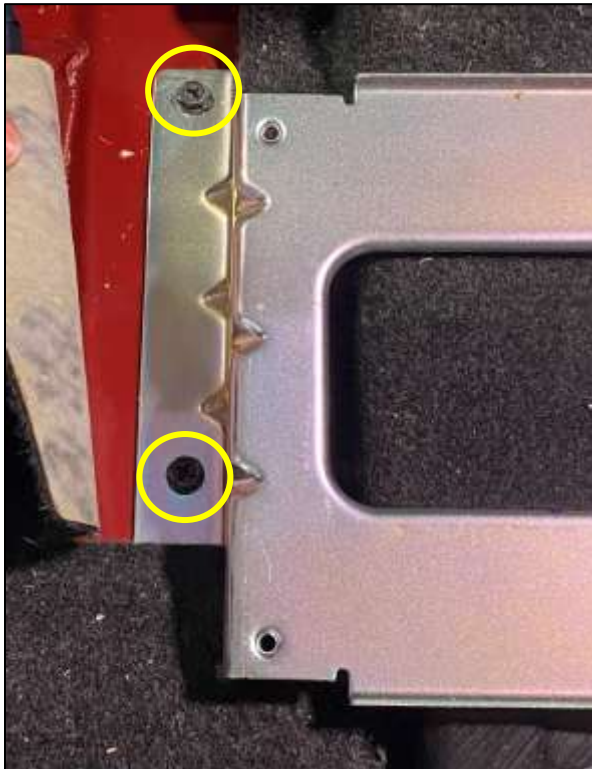

Figure 6
11. Pull the carpet up slightly and remove the (3) three screws securing the Fender Amp Bracket to the vehicle. Retain these screws. *Figure 6.*